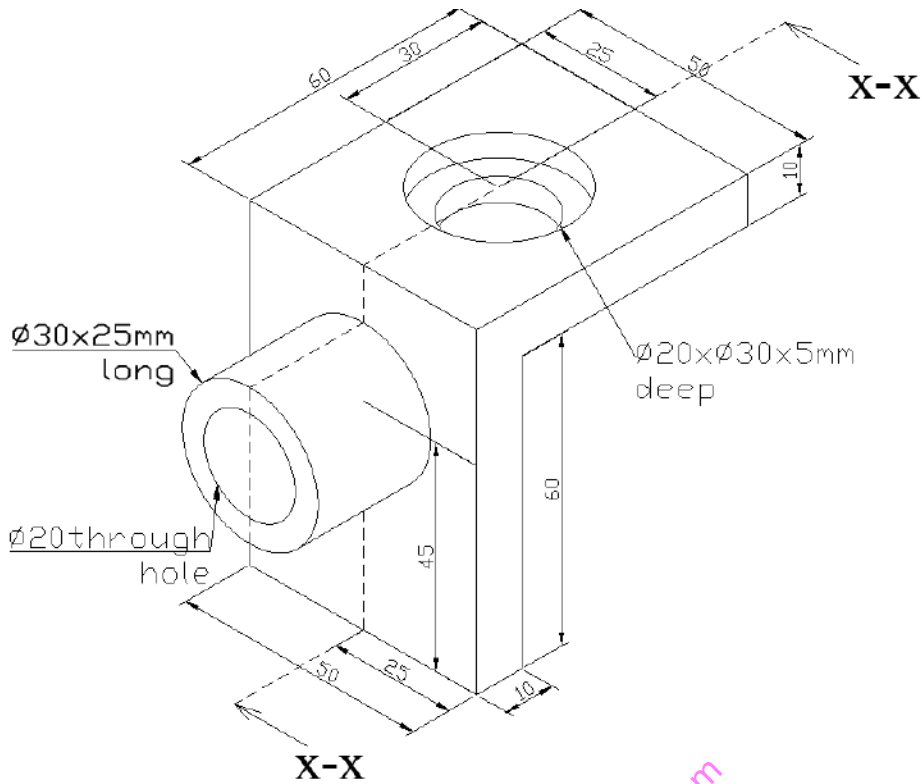

Figure 4
12. Figure 4 below shows a machine block drawn in isometric projection. Draw in first angle projection the following views. (20 Marks)